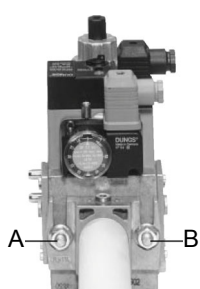
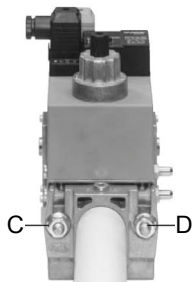
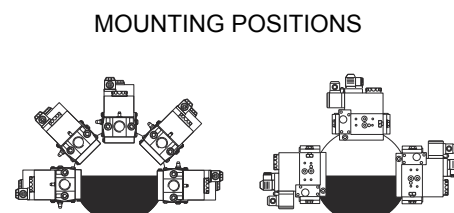

Fig. 3
Fig. 4
Fig. 6
- 3 Tighten screws A, B, C and D (Fig. 3 - Fig. 4) according to the mounting positions (Fig. 6)
1-b) in case of flanged joints: place a gasket (no. 1A..1E - Fig. 4) between the elements;
**ATTENTION:** once the gas train is mounted according to the diagram on Fig. 4, the gas proving test must be performed, according to the procedure set by the laws in force.